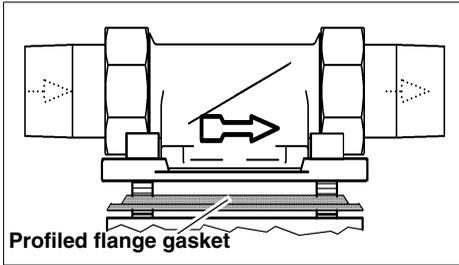

Fig. 5: Built-in rotary flange
**The built-in rotary flange must be installed in the direction of flow. This is marked by a cast-in arrow (see fig. 5).**
The section of the profiled flange gasket must point towards the built-in rotary flange. Failure to observe this can lead to leaks and water escaping. This can in turn cause water damage to the house and its installations (see fig. 5).